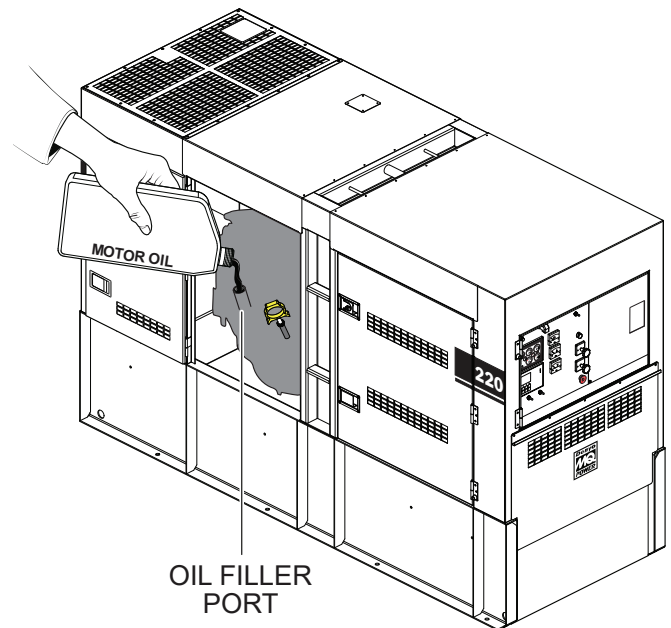

Figure 37. Engine Oil Filler Port
5. If the engine oil level is low (Figure 36C), remove the cap from the oil filler port (Figure 37) and fill to a safe operating level (max) as indicated by the dipstick (Figure 36A). Fill with recommended type oil as listed in Table 10. Maximum oil capacity is 8.6 gallons (32.5 liters).